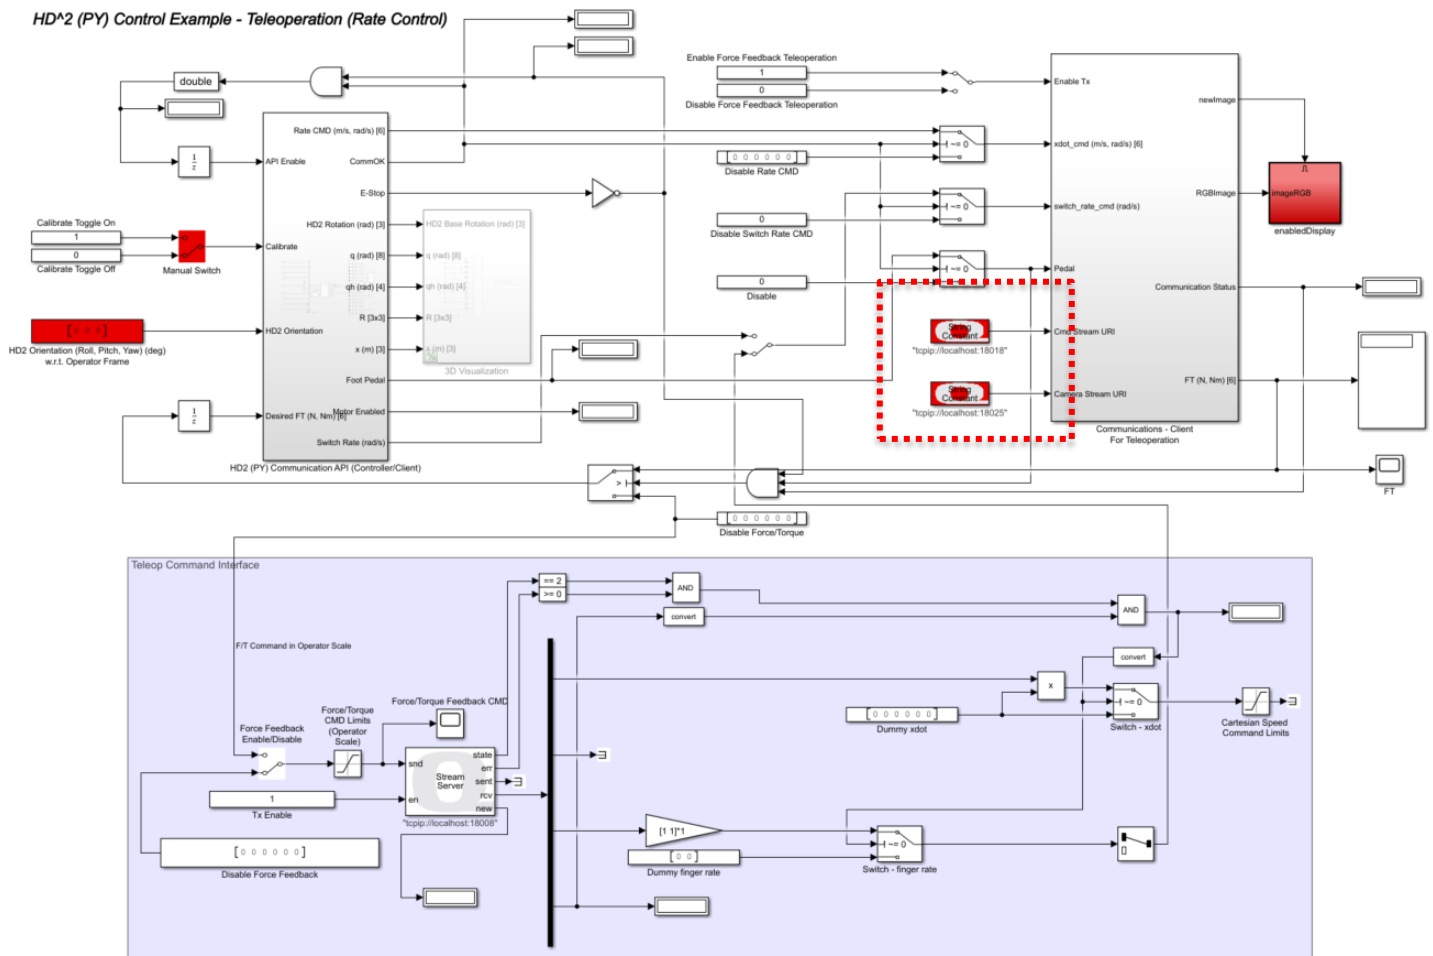

Figure 1: `HD2_QArmTeleopClient` block diagram with string constant blocks highlighted.
2. Modify the two red "string constant" blocks (highlighted in Figure 1), replacing "localhost" with the IP address of the remote PC.